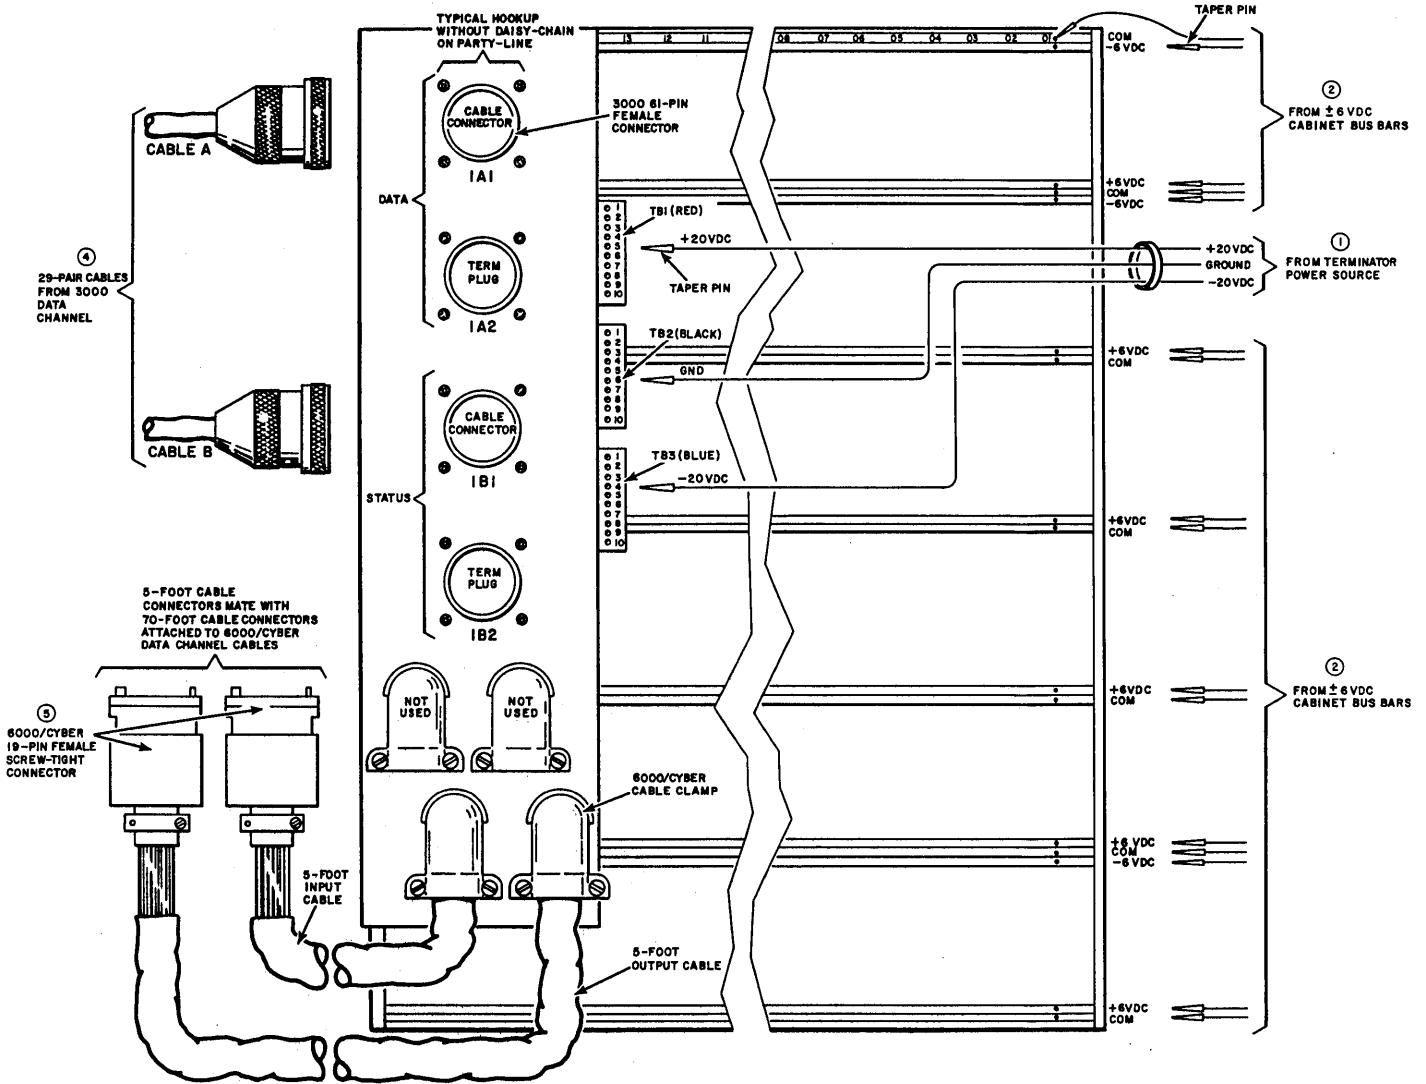

Figure 3-1. Power and Signal Cable Hook-Up
The 6681-F Data Channel Converter comes installed in a cabinet or as a separate unit to be installed on site. Refer to Figure 3-1 for callouts.
- ④ Connect 3000 data channel signal cables and terminator assemblies (plugs) as shown in Figure 3-1 (typical hook-up only). The two terminator plugs are replaced with two signal cables extending to the next equipment if the DCC is not the last equipment on the party-line cables.
- ④ Connect 3000 data channel signal cables and terminator plugs as shown in Figure 3-1 (typical hook-up only). The two terminator plugs are replaced with two signal cables extending to the next equipment if the DCC is not the last equipment on the party-line cables.